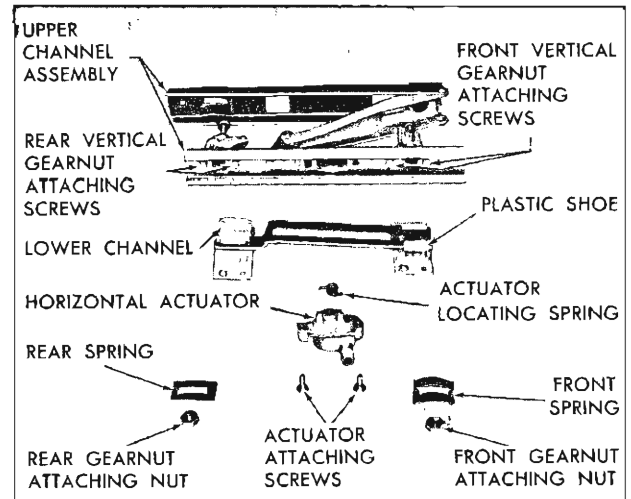

Fig. 106—6-Way Seat Adjuster Components
Figure 106 identifies the components of the six-way seat adjuster. The following service procedures include replacement of all major component parts of this adjuster.
3. If lower channel is being replaced with a new part, transfer plastic slides to new part. (Fig. 106).
7. Lay adjuster on its side and remove front vertical gearnut attaching screws (Fig. 106); then remove gearnut from adjuster.
7. Lay adjuster on its side and remove rear vertical gearnut attaching screws; then remove gearnut from adjuster (Fig. 106).
6. Transfer front and rear gearnuts to new upper channel. (Fig. 106).